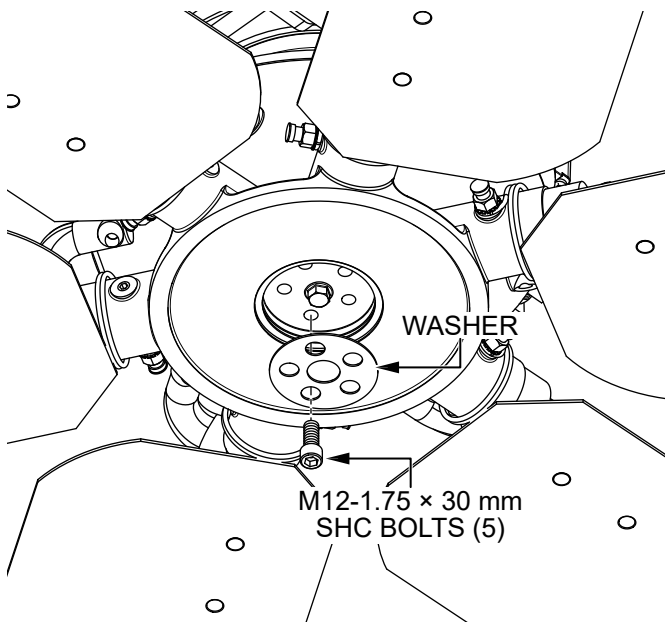

Figure 77. Install New Bolts And Washer
6. Install five new M12-1.75 × 30 mm SHC bolts with one washer as shown in Figure 77. Torque the bolts in a star pattern to 40 lbf·ft.